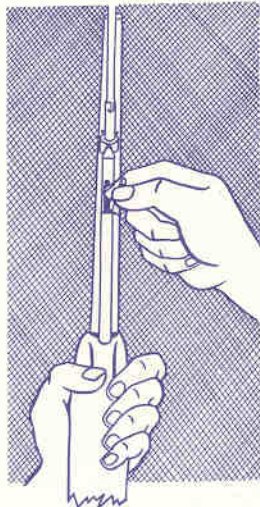

Figure 2
**TO LOAD MAGAZINE:** With safety on, turn knurled knob on inner magazine tube, pull tube out and insert cartridges into cartridge opening, (See figure 2.) continuing the operation until last cartridge is visible. Grasping knurled portion of inside magazine tube, press down with rotating action until inside magazine tube is fully home and located in supporting notch.